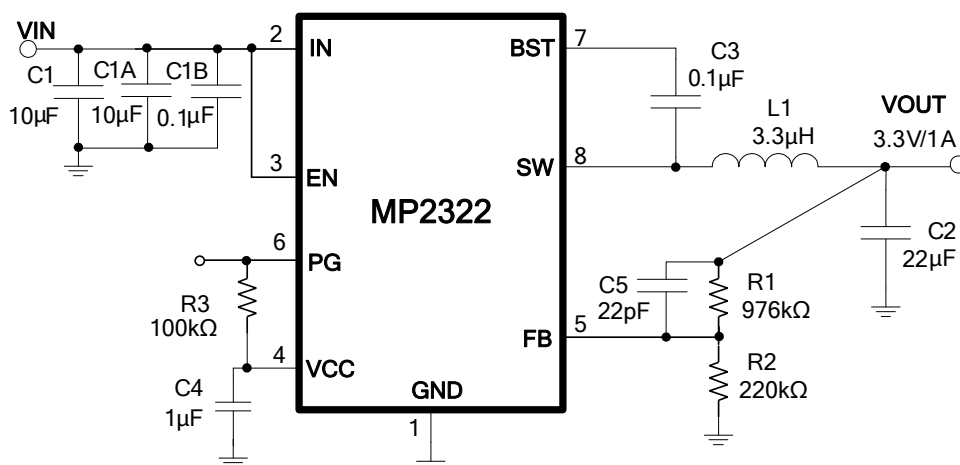

Figure 8: $V_{IN} = 12V$, $V_{OUT} = 3.3V$, $I_{OUT} = 1A$
- 7) The recommended layout is based on the Typical Application Circuit shown in Figure 8.
The detailed application schematic is shown in Figure 8. The typical performance and waveforms are shown in the Typical Characteristics section. For more devices applications, please refer to the related evaluation board datasheet.